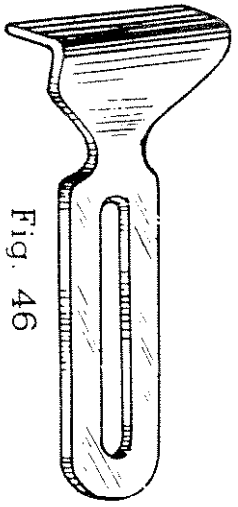
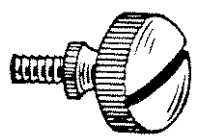

Fig. 46
Fig. 47
Fasten Gauge (Fig. 46) with accompanying screw (Fig. 47) in threaded hole in bed of machine. Adjust to desired width.
3. Cloth Guide Fig. 46
4. Thumb Screw Fig. 47